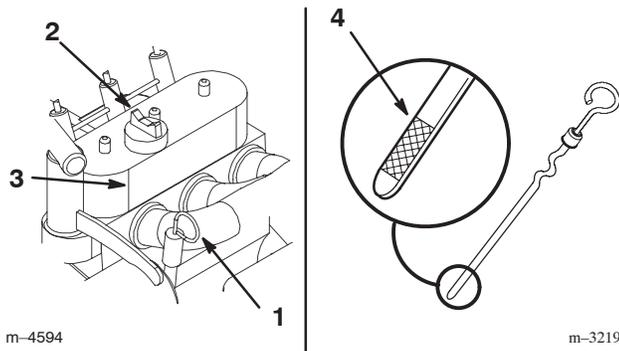

Figure 5
4. Clean around the oil dipstick (Fig. 5).
5. Pull out the dipstick and wipe the metal end clean (Fig. 5).
6. Slide the dipstick fully into the dipstick tube (Fig. 5).
8. If the oil level is low, clean around the oil filler cap and remove the cap (Fig. 5).